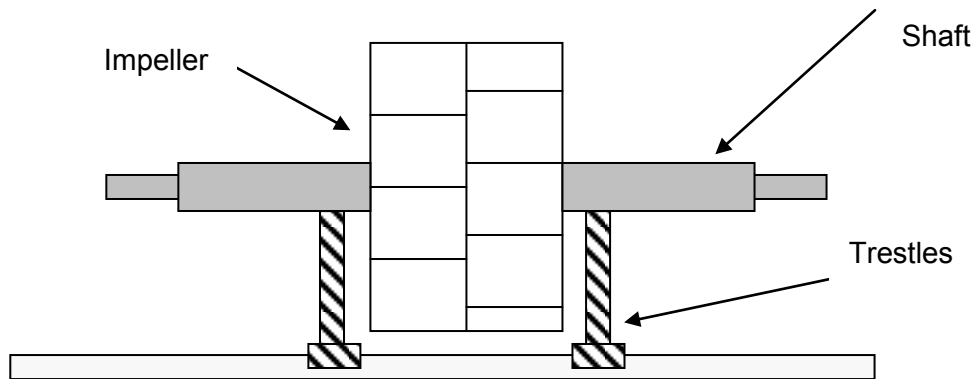

Figure 2: Storage of Shafted Impellers
- h. When shafts are NOT fitted with an impeller, the trestles must be placed approximately one third the shaft length from the ends. (See Figures 2 and 3 below)